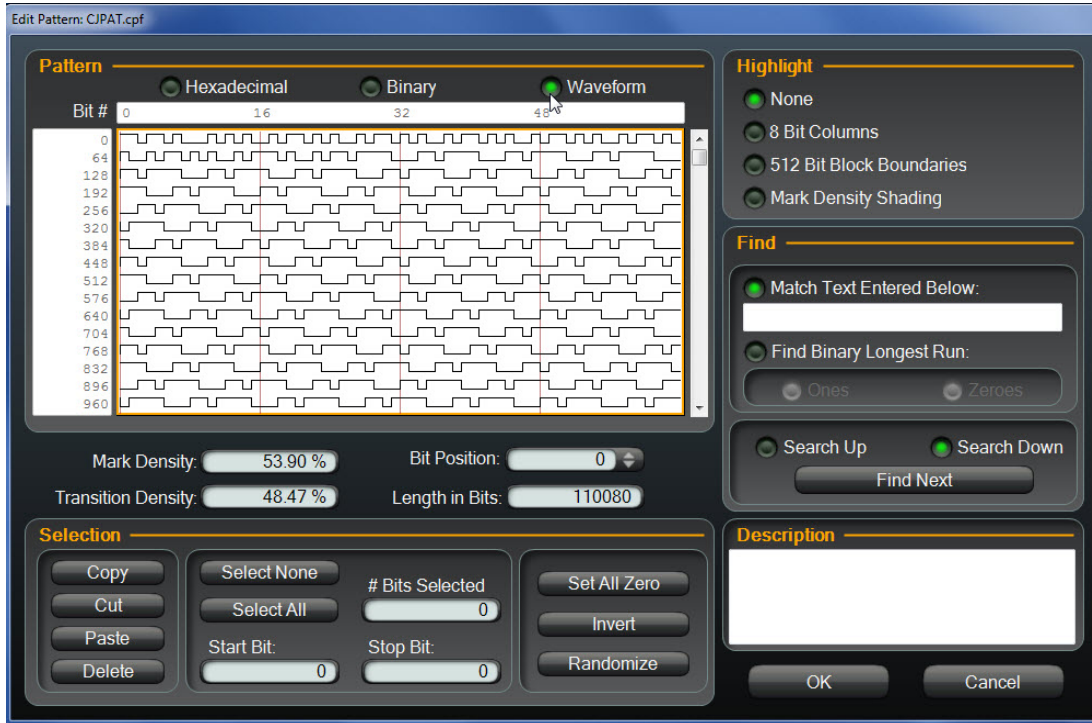

Figure 83. Waveform view
- To view the pattern as a waveform, select **Waveform** as shown in Figure 83.